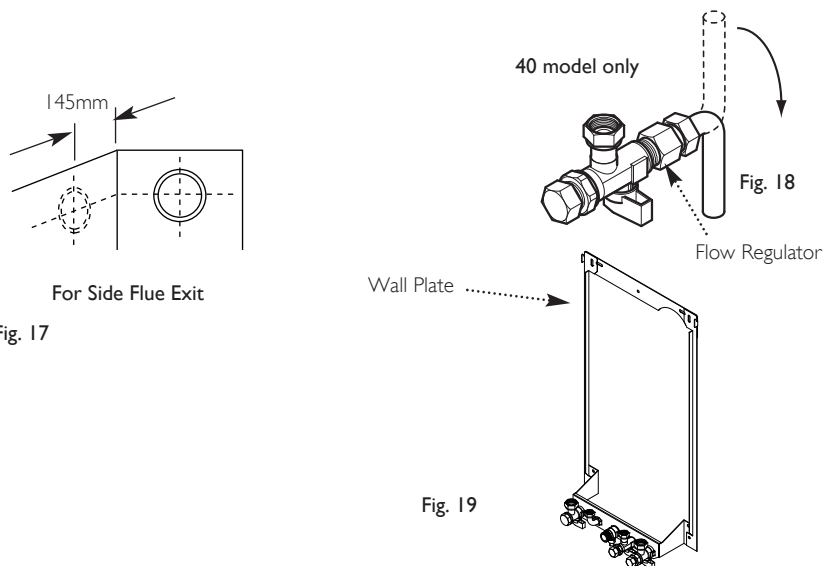

Fig. 17
6. Mark the position of the centre of the flue hole (rear exit). For side flue exit, mark as shown (Fig. 17).